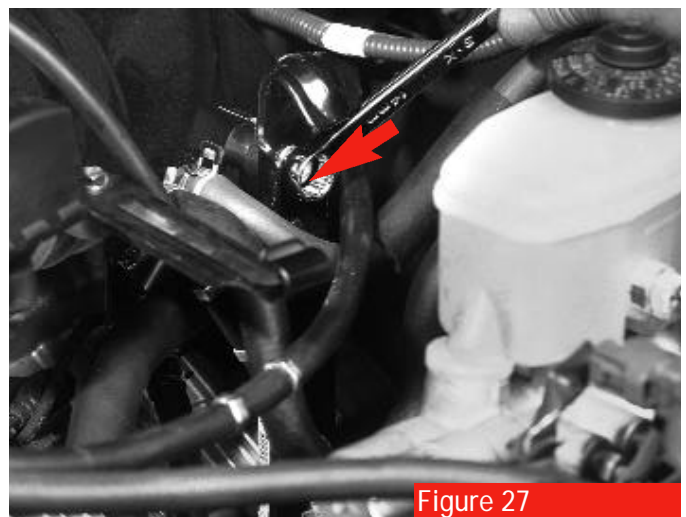

Figure 27
4. When the assembly sits flat on the engine, put the stock manifold brace (driver's side) bolt and TRD spacer in first **(see arrow, figure 27)** and then install the stock nuts on the studs at each end of the manifold and hand tighten. Use M8x35mm Bolt